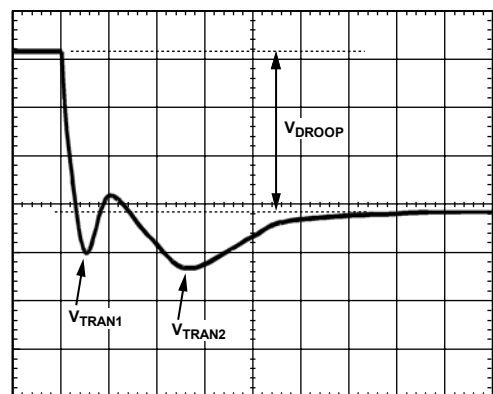
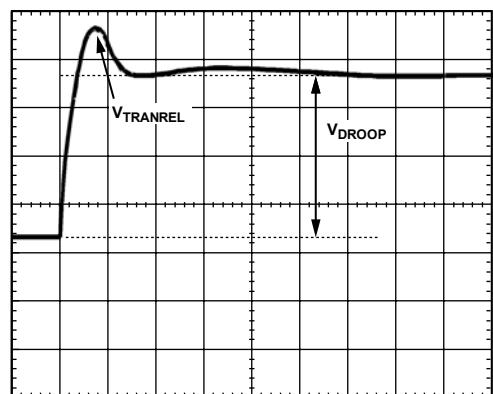

Figure 15. Transient Setting Waveform
Figure 16. Transient Setting Waveform
- With the dynamic load still set at the maximum step size, expand the scope time scale to see 2  $\mu\text{s}/\text{div}$  to 5  $\mu\text{s}/\text{div}$ . The waveform may have two overshoots and one minor undershoot (see Figure 15). Here,  $V_{DROOP}$  is the final desired value.
- For load release (see Figure 16), if  $V_{TRANREL}$  is larger than  $V_{TRAN1}$  (see Figure 15), there is not enough output capacitance. Either more capacitance is needed or the inductor values need to be smaller. If inductors are changed, start the design again using the spreadsheet and this tuning procedure.